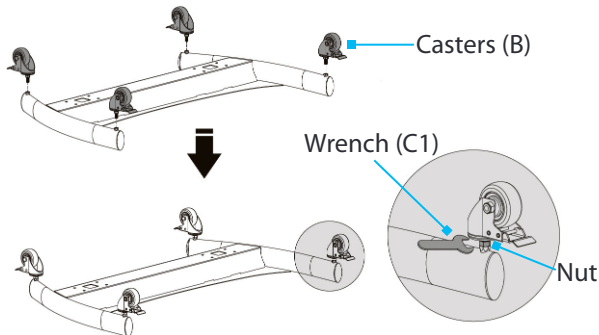

Figure 1
1. Flip the **Base (A)** upside down and place it onto a clean and flat surface. (Figure 1)
2. Insert each of the four **Castors (B)** into the holes, located in the bottom of the **Base (A)** and tighten, using the **Wrench (C1)**.
3. Flip the **Base (A)** upright so the **Castors (B)** are making contact with the floor.
4. (For uneven surfaces) Flip the **Base (A)** upside down and use the **Wrench (C1)** to adjust the **Nut** located on each **Caster (B)**.